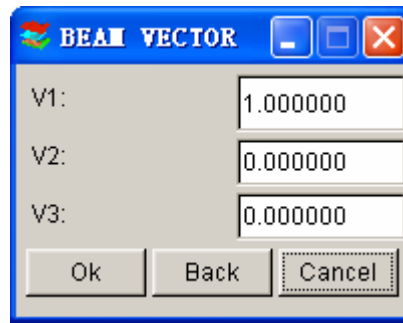

Figure 5.3.16 Beam Vector
- If the user selects ORIENTATION VECTOR, a new dialog window will be displayed as in Figure 5.3.16. This window prompts the user to define the orientation vector.